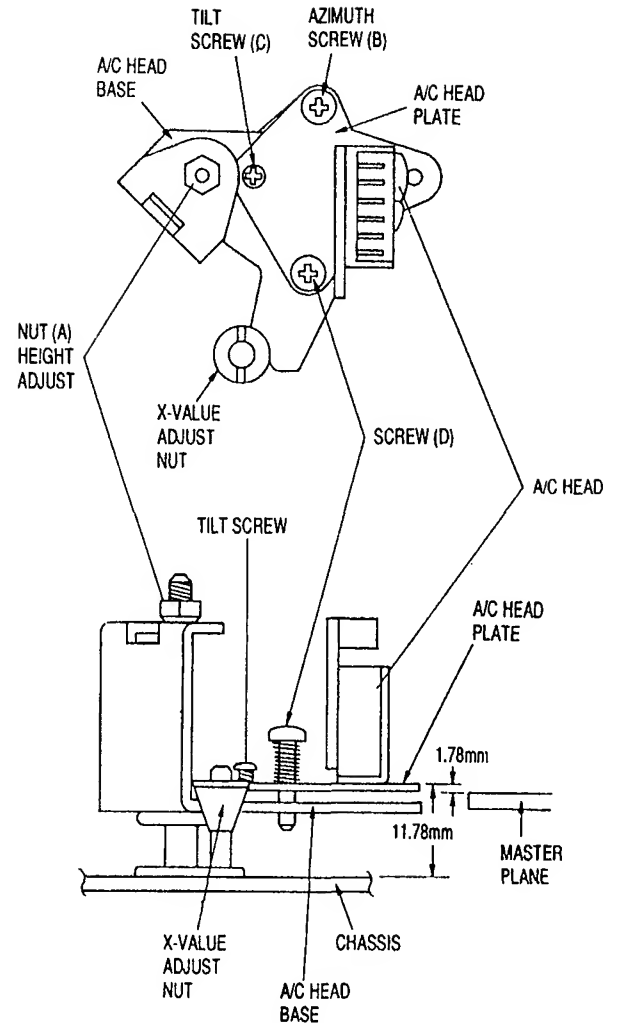

Fig. 3-105
## (2) X-Value Adjustment (Figs. 3-105, 3-106)